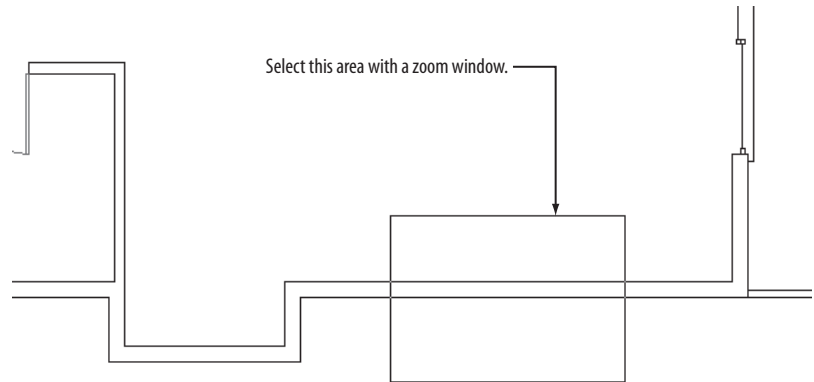

FIGURE 7.24: Making a zoom window
- Using a zoom window, zoom in to a horizontal section of wall where there are no jamb lines or intersections with other walls (see Figure 7.24).